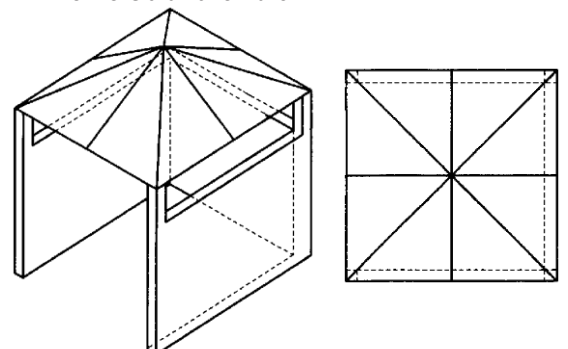

Figure 4 - Open side at least 25% of total wall area. 30 % or more in total of the remaining wall area is open and unrestricted.
- At least 30% of the remaining wall area is open and unrestricted. See Figure 4 & 5.